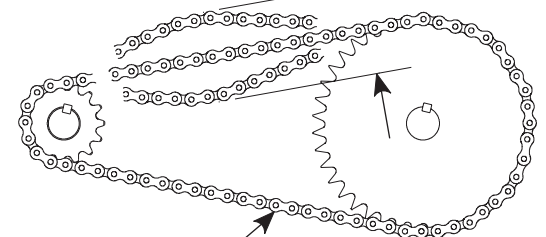

Figure 18
- Adjust chain until slack is between 1/4" and 1/2", as shown in the illustration below Figure 18. If the chain slack exceeds 1/2", re-cut roller chain.
- With the headplates mounted check the Chain Hoist tension again. See Figure 18.